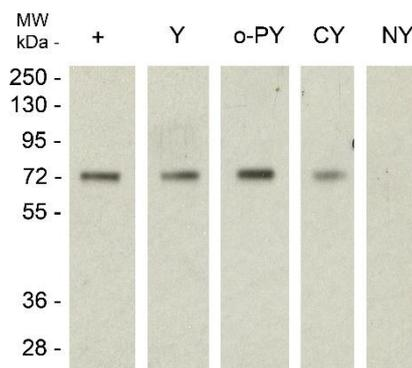

Figure 2
Figure 2: Western Blot using 1:2000 Clone 2E11-3D3 (A010-2E11AP) Ab against 10µg of NY-BSA +/- 100 µg/ml Tyrosine (Y), O-Phospho-L-Tyrosine (o-PY), 3-Chloro-L-Tyrosin (CY) and Nitrotyrosine (NY). 10% gel, PVDF membrane, 10 second film exposure. NY completely blocked Ab staining, CY caused some inhibition whereas Y and o-PY had no effect.